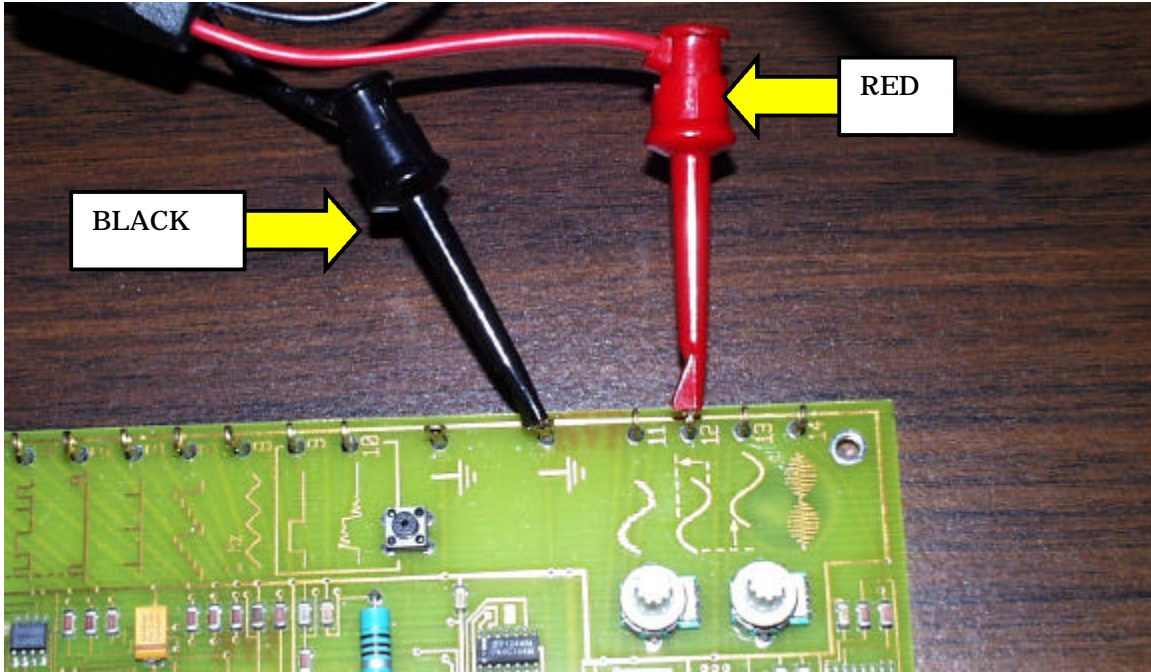

Figure 6-4: Connecting to the Trainer Board
3. Connect the alligator clips of the cable to the *ground* and *12* pins of the trainer board, as shown in Figure 6-4.
5. Set the two control knobs on the trainer board (visible in Figure 6-4) to mid-position.